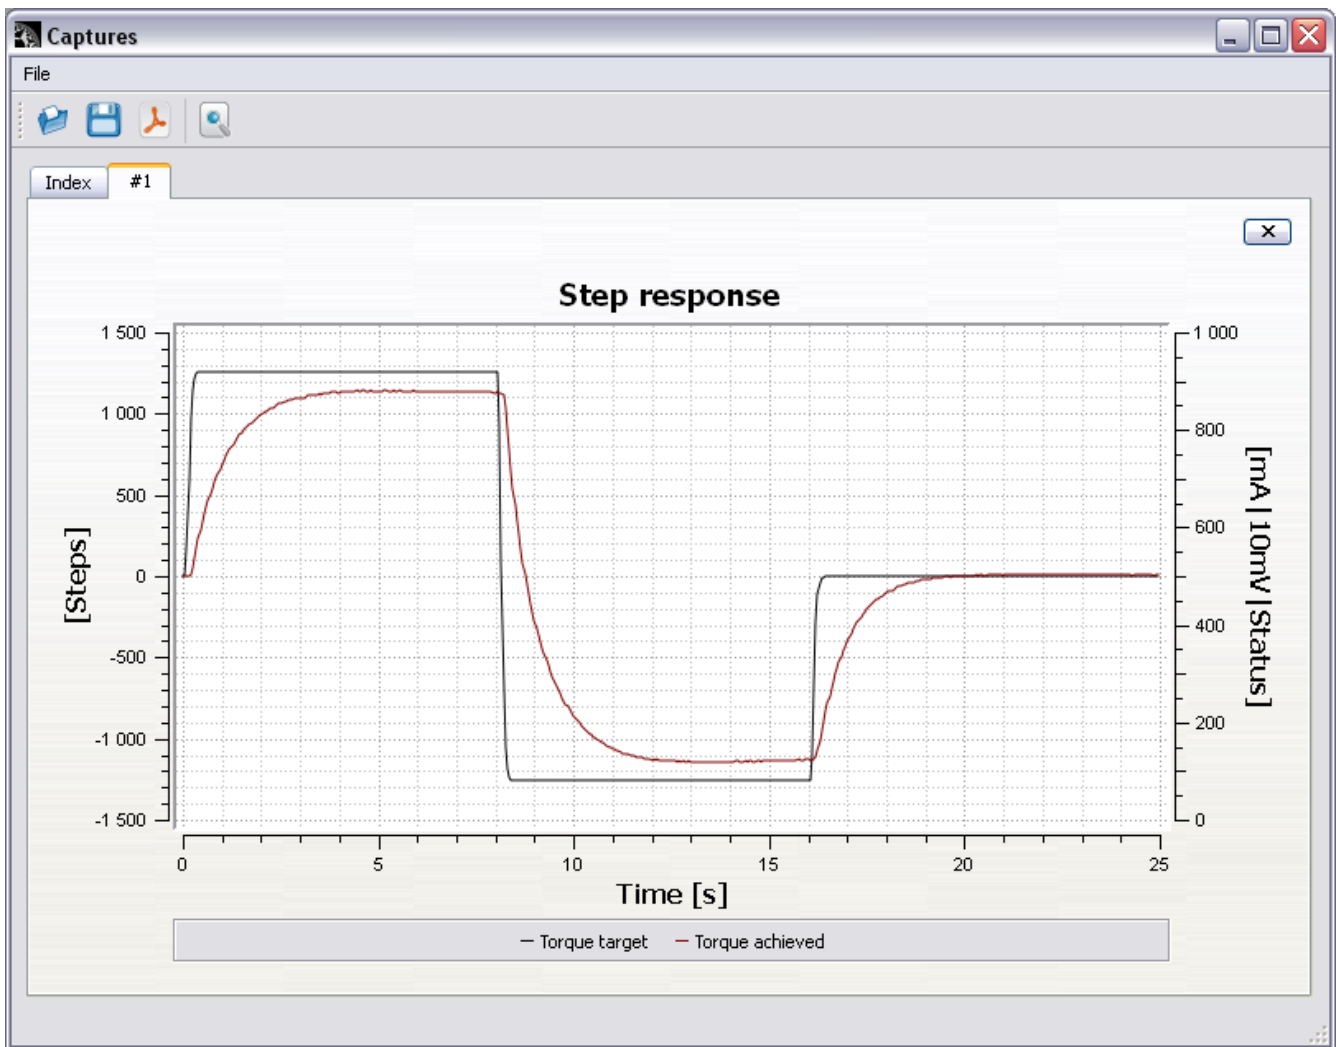

Figure 1: Too low torque gain values
- If you are getting response that resembles Figure 1, increase **Torque P gain** and return to step 3.